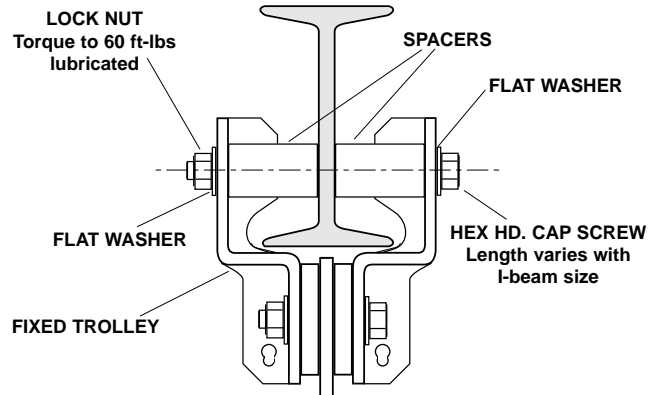

FIGURE 7–SECURING FIXED TROLLEY
D. Mount fixed trolley to I-beam using hex head bolt, flat washers, spacers and lock nut, supplied. See Figure 7.